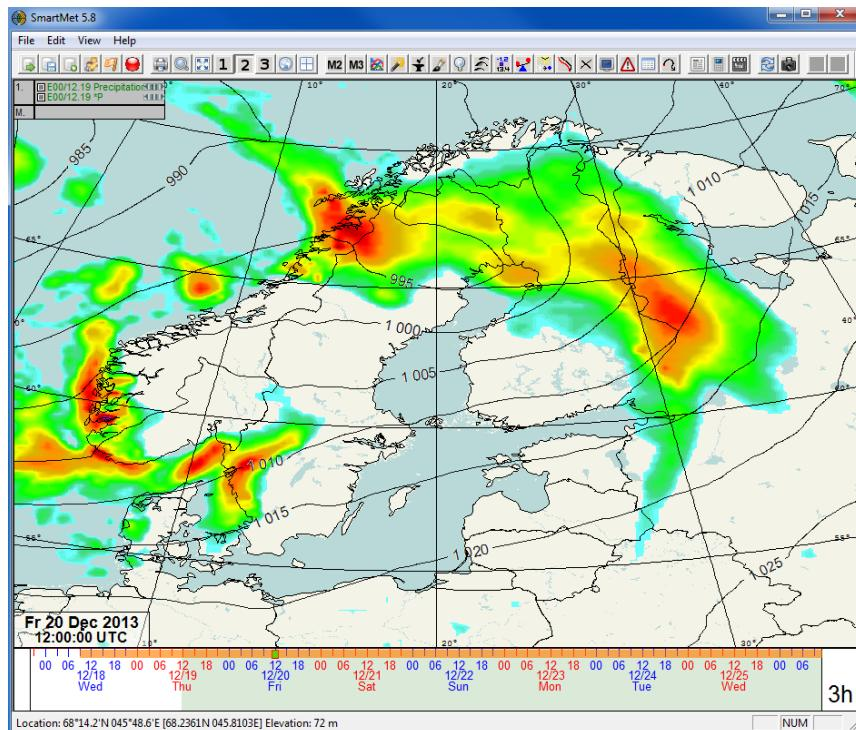

Figure 1.1 SmartMet's main map view.
SmartMet reads all required data each time the program is opened and automatically updates all data information when for example new observations or models becomes available on the server. If data is not automatically loaded, this can be enabled from *Edit -> Settings -> Auto load data at startup*. SmartMet's main map view with two parameters (ECMWF's precipitation and pressure) is shown in Figure 1.1.
- Time step, the amount of time gone forward or backward is adjusted from the right bottom corner. In fig. 1.1 it's 3 hours. It can be adjusted by placing mouse on that white box and clicking with right/left mouse buttons or with mouse scroll. Time step can be anything between 5 min to 48 hours.